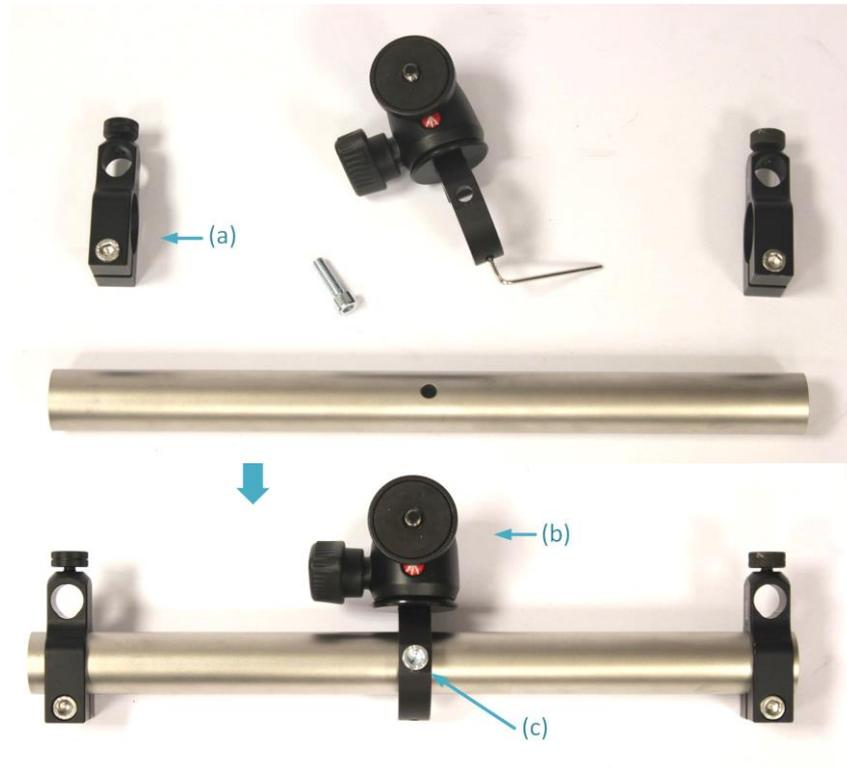

Figure 23 Assembly of the top post for camera mount
Step 3.4 Assemble the top road with tripod head (Figure 23)